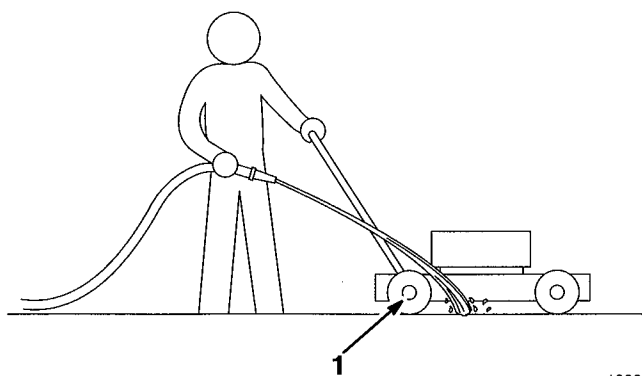

Figure 30
3. Hold the running garden hose at handle level and direct water to flow on ground just in front of right rear tire (Fig. 30). The rotating blade will draw water under the housing and wash out clippings. Let the water run for a few minutes or until you no longer see clippings being washed out from under housing.